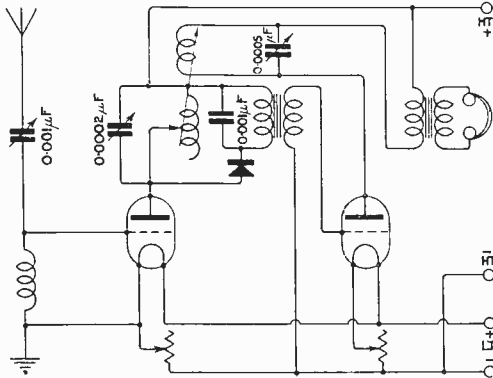

Fig. 3.
(1) We suggest you connect the high frequency valve as shown in Fig. 3. Suitable valves are indicated in the diagram. The anode coil may be a winding 4" in diameter and 6" long of No. 30 S.S.C. wire with 18 tappings. The reaction coil